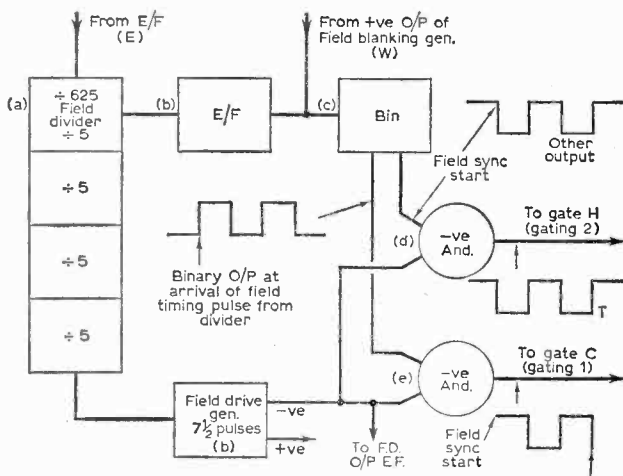

Fig. 43—(below) Block schematic diagram of the field gating circuits.
Multivibrator (Z) is also used to generate the gating waveforms discussed earlier. These are generated by taking an output from the first divider (see Fig. 35) which is fed to a binary counter (c) via emitter follower (b). This produces the waveform as in Fig. 43 where the gating process is shown in greater detail. The